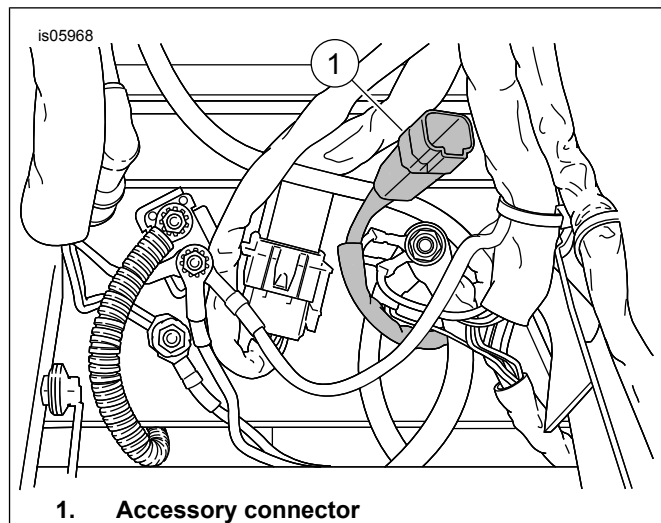

Figure 2. Accessory Connector Location (Under Seat)
1. See Figure 2. Remove rubber plug from accessory connector (1) located under seat. Route harness under seat. Plug the seat electrical connector into the accessory connector. The connectors lock together with an audible click.